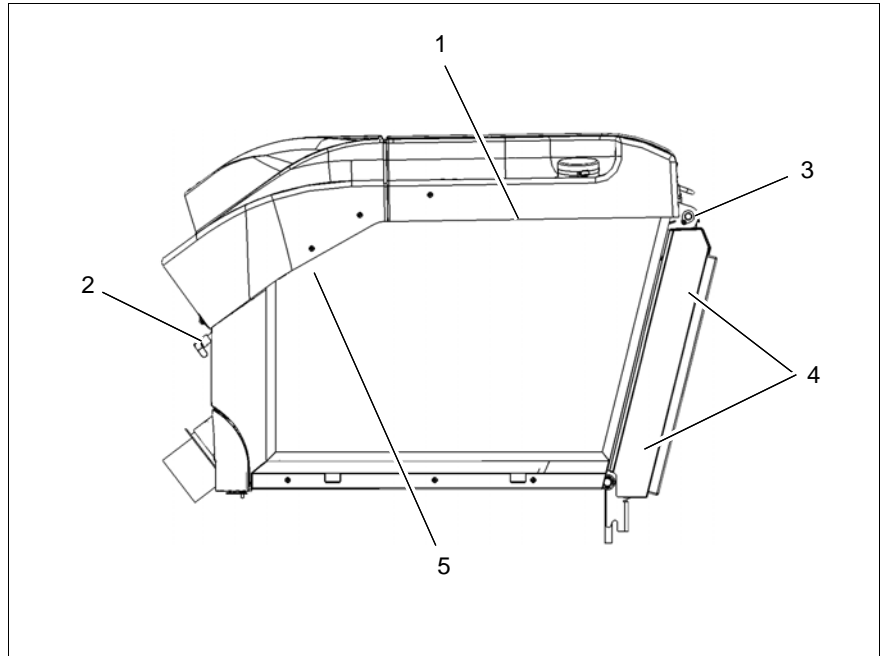

Fig12
4. Open toggle-type fasteners (Fig. 12/3) of the hopper lid
3. Connect water hose to water fitting (Fig. 12/2) of the hopper and have the water taken in by the suction fan.
6. Clean hopper inside including fan filter (Fig. 12/5) by water jet
Die Dichtung (Fig. 12/1) des Behälterdeckels täglich kontrollieren und bei Bedarf erneuern.
For cleaning the suction fan, the hopper front is equipped with a fitting (Fig. 12/2).
The fan filter (Fig. 12/5) is located between suction fan and suction pipe.
Ball joint 2x (Fig. 12/3)
Hydraulic cylinder 4x (Fig. 12/4)